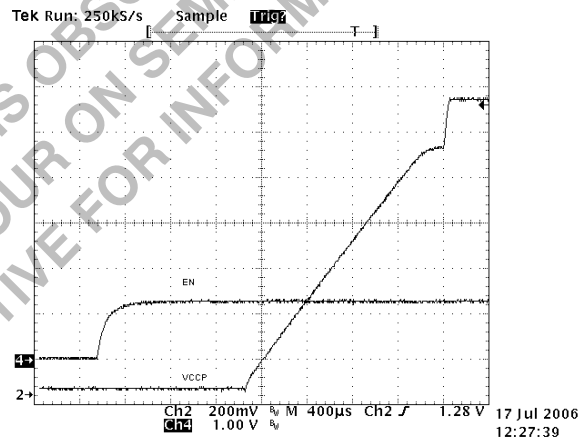

Figure 15. VR11 Startup
The controller supports two different startup routines. A legacy VR10 ramp to the initial VID code, or a VR11 Ramp to the 1.1 V VID code, with a pause to capture the VID code then resume ramping to target value based on an internal slew rate limit. See Figures 15 and 16. The controller is designed to regulate to the voltage on the SS pin until it reaches the internal DAC voltage. The soft-start cap sets the initial ramp rate using a typical 5.0 μA current. The typical value to use for the soft-start cap (SS), is typically set to 0.01 μF. This results in a ramp time to 1:1 V of 2.2 ms based on equation 1.